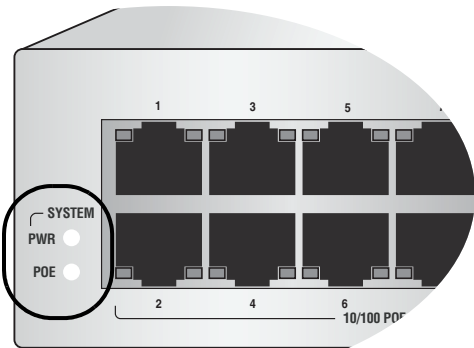

Figure 2. System LEDs
**System LEDs** The switch has two system-level LEDs, Power and PoE, as shown in Figure 2 and described in Table 2.